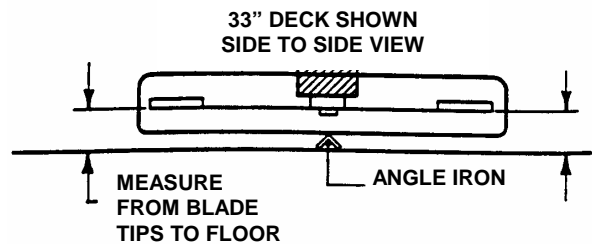

FIGURE 4.8
7. Measure distance from blade tip to floor on each side of deck. Blade tips should be within 1/8” of each other for the deck to be considered level. See Figure 4.8.